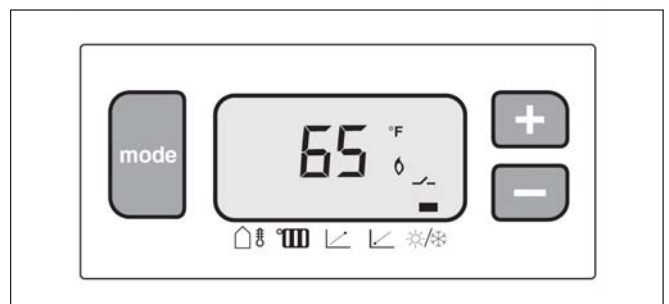

Fig. 30 Warm weather shut down temperature
- Press the mode key to switch to the warm weather shut down (WWSD) temperature (Fig. 30). If the outdoor temperature rises above this value space heating will stop.